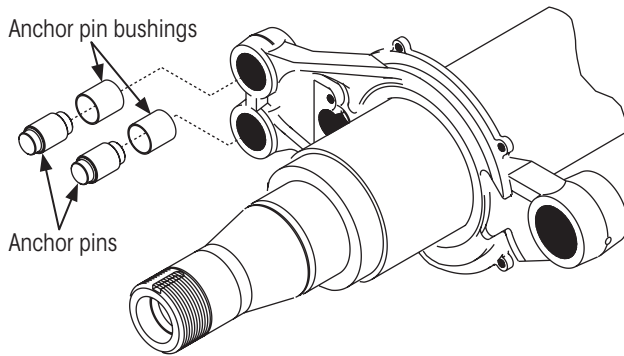

Figure 42: Installing new anchor pins and anchor pin bushings
1. **Inspect** the anchor pin bushings in the spider. Remove and replace if necessary (Figure 42).